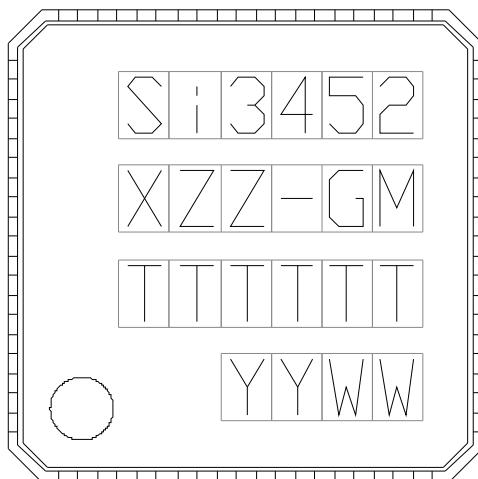

Figure 9. Device Marking Diagram
- Updated Figure 9, "Device Marking Diagram," on page 34.